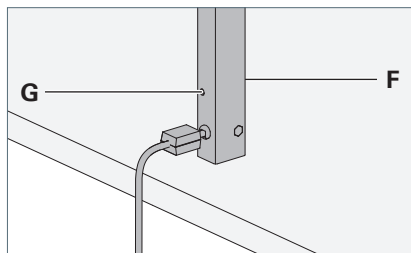

Fig. 6: Adjusting the inclination of the column.
- ▶ Use a hexagon socket key to make sure that both screws **F** and **G** are tightened clockwise, see Fig. 6.